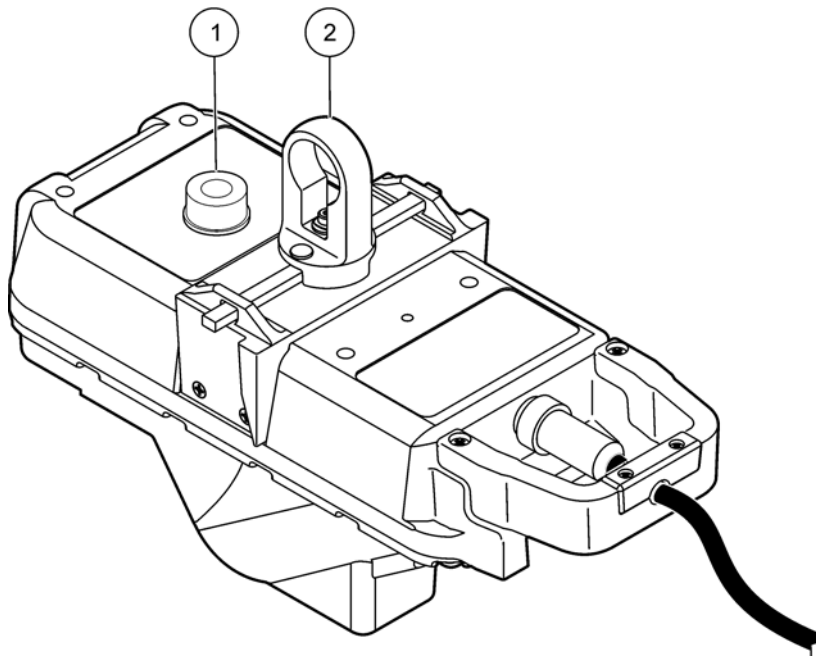

Figure 10 Horizontal alignment
The sensor fits in the frame in only one direction and locks in position when the bail on the sensor is turned (Figure 10). The sensor can be removed from the frame and installed without entering the manhole when the optional retrieval pole is used (see Accessories on page 37).
4. Turn the bail to lock the sensor on the frame (Figure 10).
- Remove the paper backing from the bubble level and attach the level to the sensor (Figure 10 on page 21).